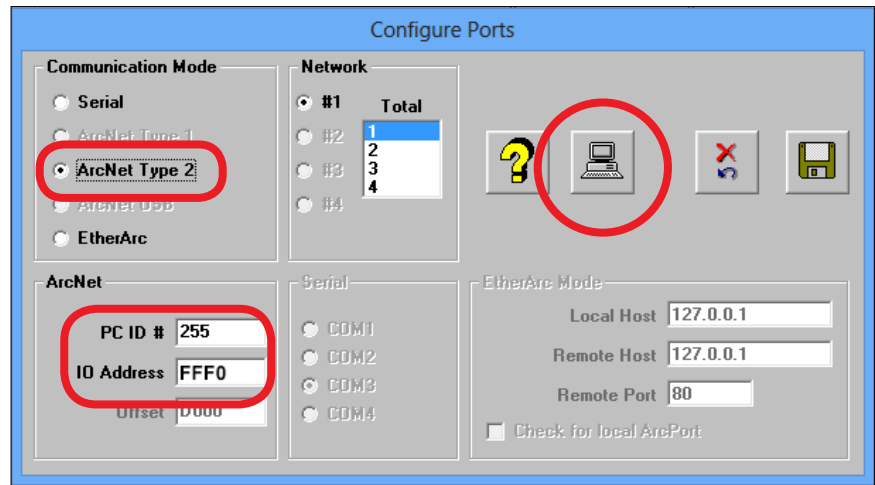

Figure 50. *Configure Ports*. Verify PC ID # is set to 255, write down the IO Address, and press the computer icon button to open Device Manager.
- a. Select **Setup> Configure Port** from the Virtual Rail menu (see Figure 50).